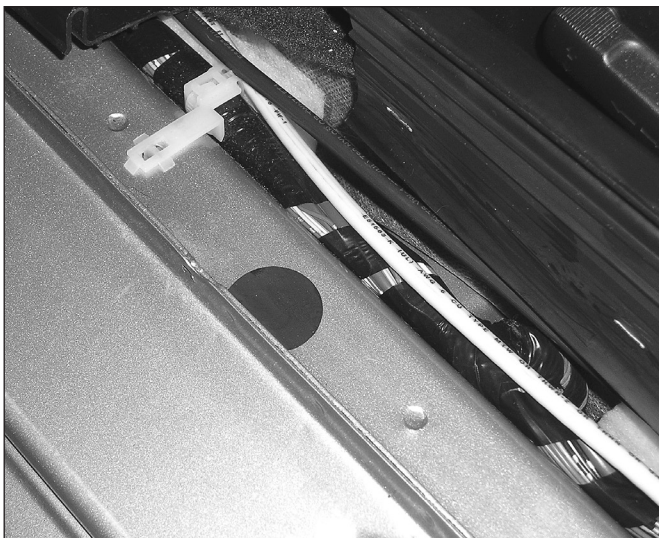

Figure 24.26 — Most vehicles have wiring troughs hidden behind interior body panels.
- Wiring needs to be shortened and/or bundled with appropriate wire ties to avoid interaction with passengers and mechanical devices. **Figure 24.26** shows a typical vehicle wiring tray.